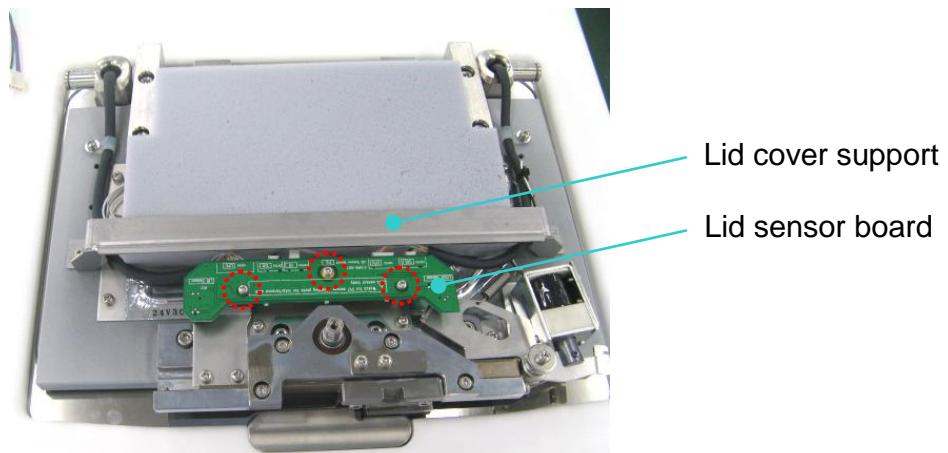

Fig. 4-2-7-1 Removal of Lid PC Board
- (4) Attach the lid lever, and slowly move the rack to the position that it has contact with the lock lever (refer to Fig. 4-2-7-2).